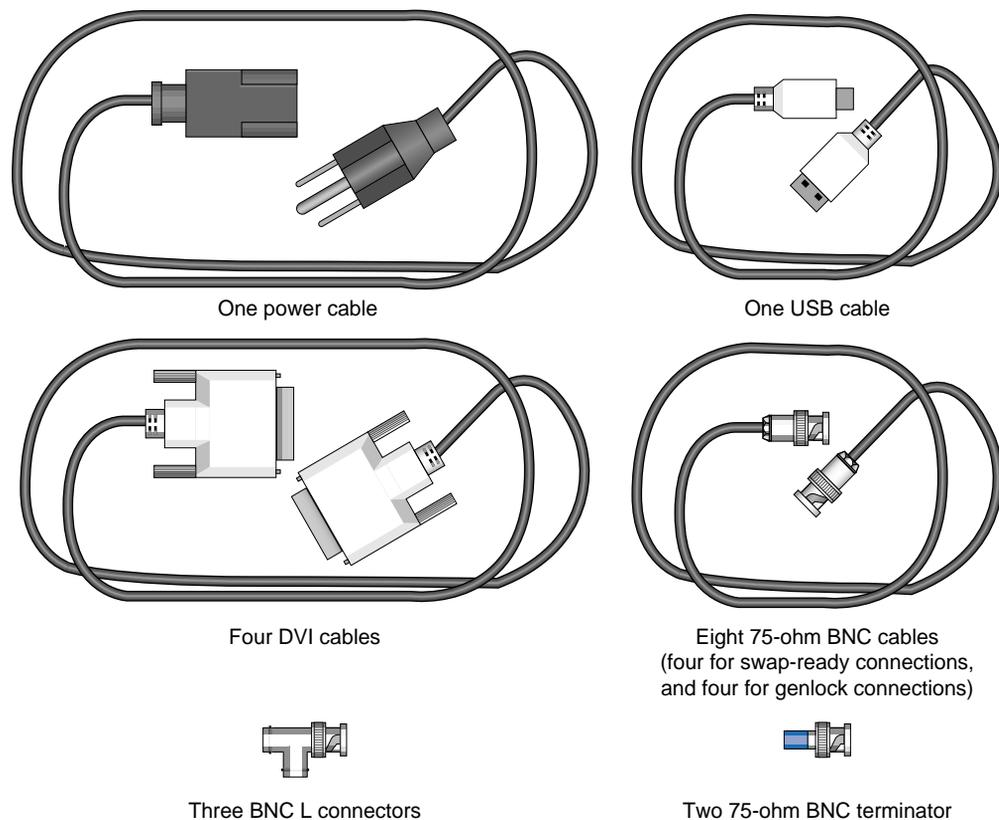

Figure 3-10 Cables and Other Cabling Items Needed for Installation
1. Be sure that the compositor power switch on the rear panel is in the OFF (O) position and that it is not connected to a power source.
2. Gather the following cables and other cabling items, most of which are shown in Figure 3-10: